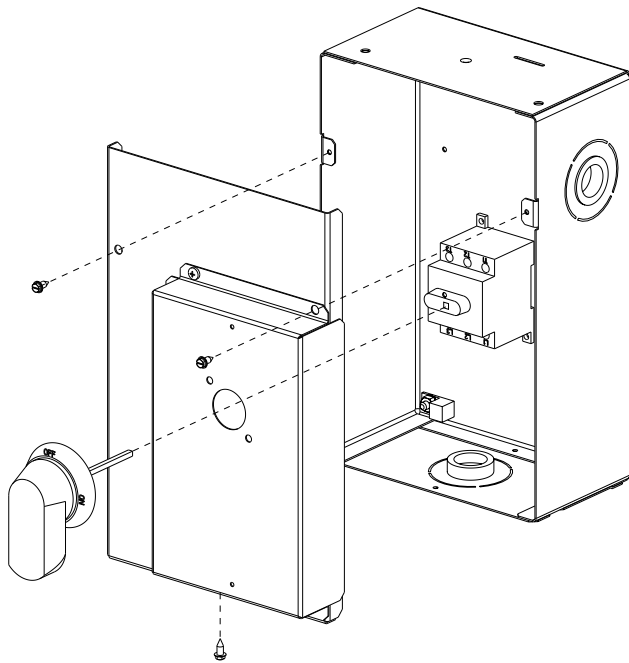

Fig. 36 — Handle and Shaft Assembly for NFD CONVENIENCE OUTLETS
2. Remove (3) hex screws on the NFD enclosure - (2) on the face of the cover and (1) on the bottom (see Fig. 36).
10. Secure the handle to the painted cover with (2) screws and lock washers supplied.
11. Engaging the shaft into the handle socket, re-install (3) hex screws on the NFD enclosure.